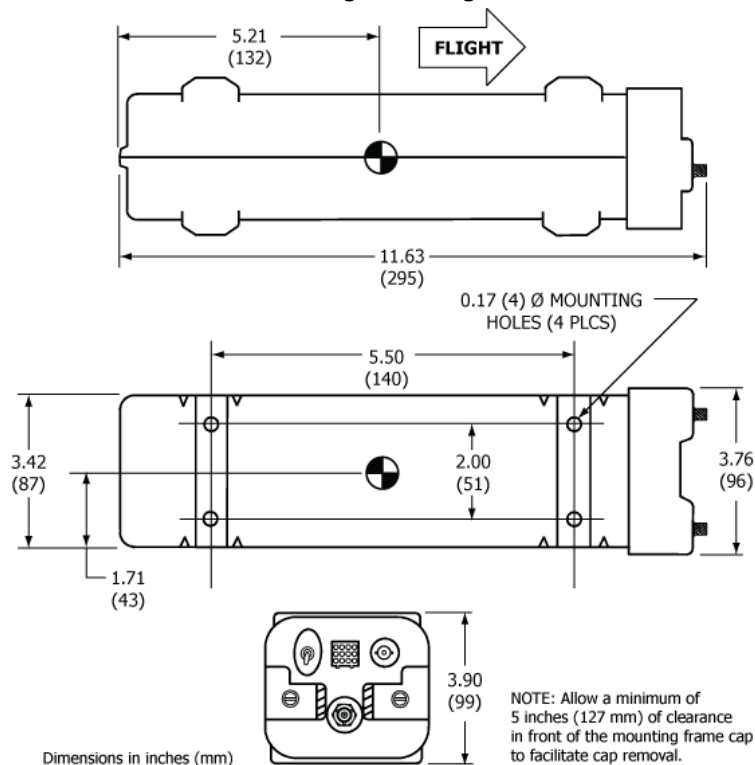

Figure 13 B406-4 ELT Outline and Dimensions
- 1) Select a suitable location for the mounting tray. See Figure 13 B406-4 ELT Outline and Dimensions. Refer to these dimensions when determining mounting location.
- 4) Mark the four holes needed for mounting the tray, using the tray as a pattern. The hole pattern is also illustrated in Figure 13 B406-4 ELT Outline and Dimensions on page 45.